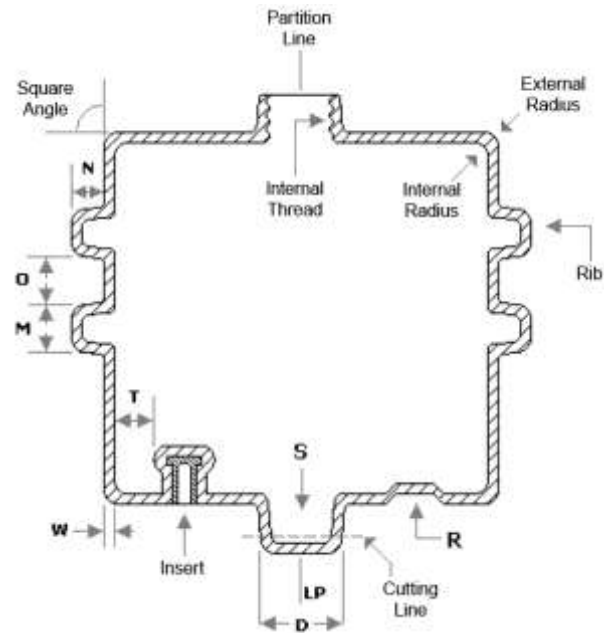

Figure 2. Design details of a hollow rotomolded part.
- Hollow rib width (M in Figure 2) must be at least five times larger than wall thickness (W), ($X \geq 5W$), and height (N) must be at least four times wall thickness. [1, 3]
- Clearance between ribs (O in Figure 2) must not be less than three times wall thickness ($O \geq 3W$), although a gap of five times wall thickness is even better. [1]
- Make sure that there is an adequate space between the insert and any other surface in order to prevent powdered material bridging. The distance between part surface and part containing the insert should be at least four times wall thickness ^[2]. See T in Figure 2.
- Undercut indentations and partition line should be placed on the same plane to the first one and in parallel direction to the second one ^[1] (see Figure 2, where R is an undercut).
- A boss (projected blind hole) may be manufactured by molding a cylinder whose tip is cut at the end, which leaves an opening ^[1]. See S in Figure 2.